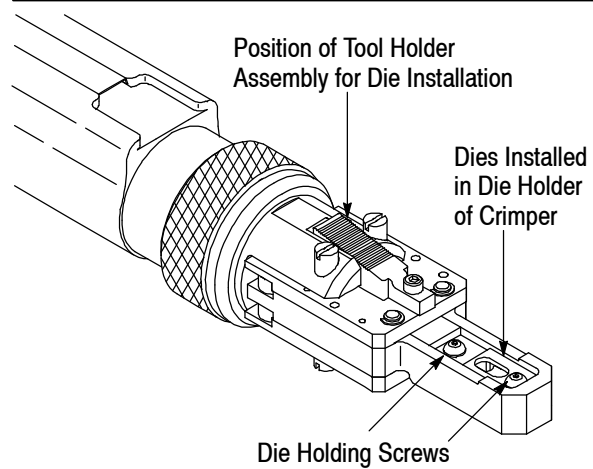

Figure 3
2. Position tool holder assembly as shown in Figure 3, and install the die assembly.
3. Secure the die assembly in the die holder assembly with the die holding screws. See Figure 3.